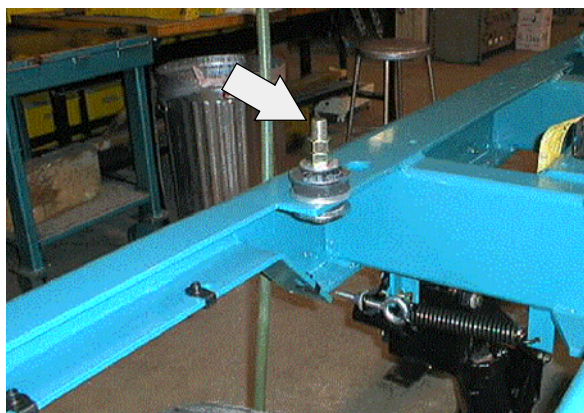

FIG. 1
5. Remove the M20 hex nuts and washers holding the cab down to the machine. Set the hex nuts and washers aside. Refer to Fig. 1.
9. Reinstall the M20 hex nuts and washers to secure the cab. Refer to Fig. 1.